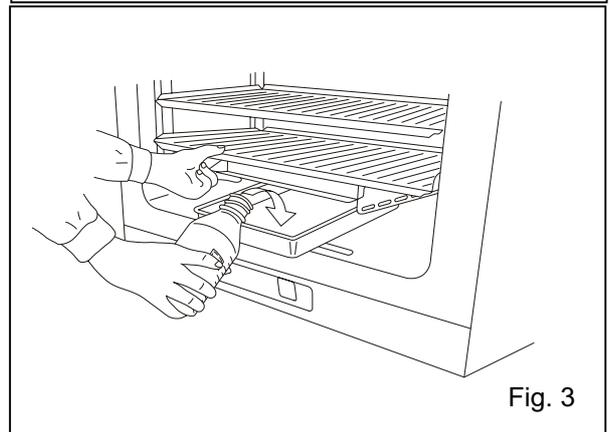

Fig. 3
5. By lifting up the humidifying pan cover, unhook it at the rear and remove the cover as shown in Fig. 3.
5. Place the pan under the pan cover and pour the sterile distilled water (about 3 liters) into it. See Fig. 3. Make sure that the water is pre-heated at 37°C.